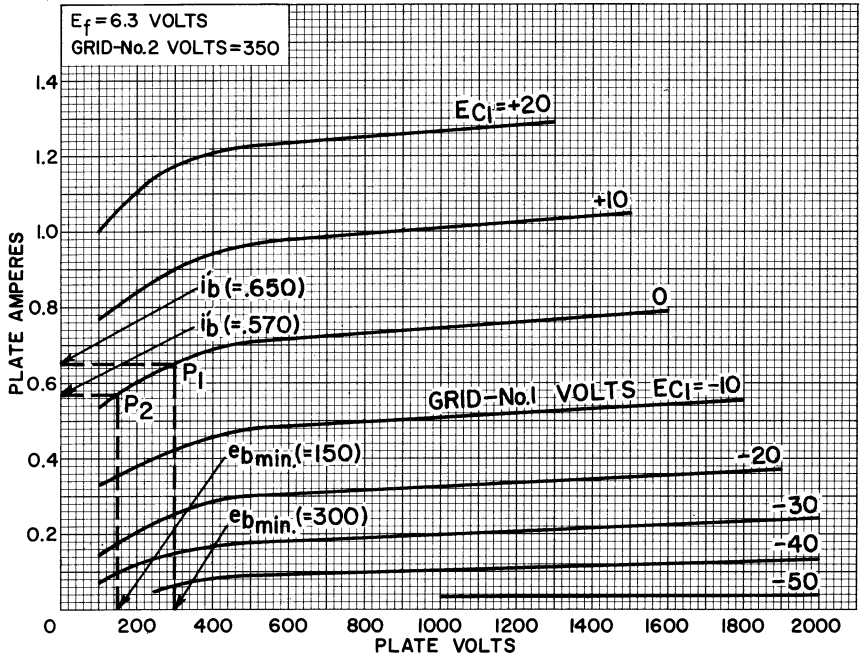
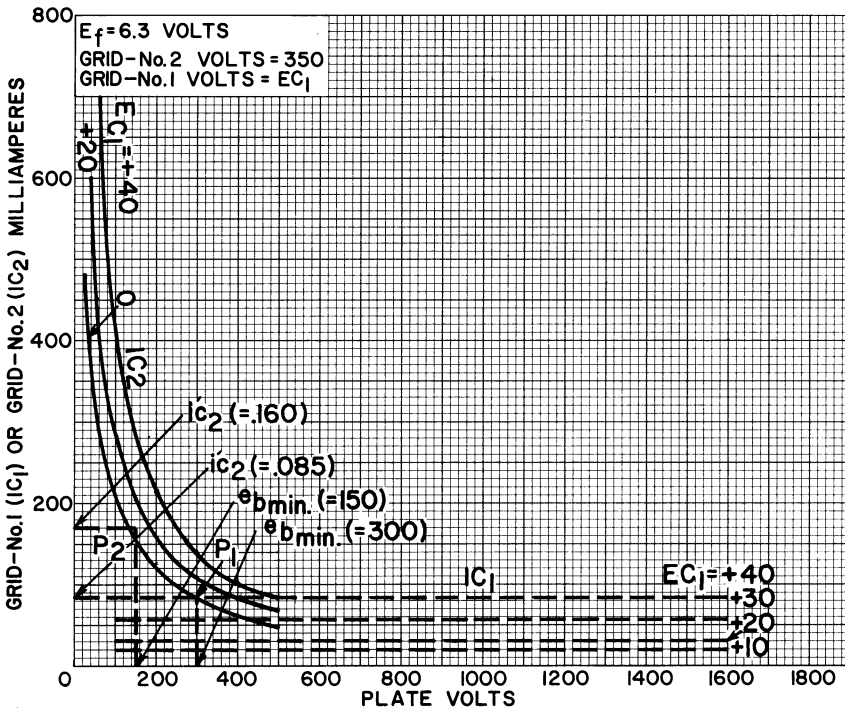

Figure 1: Typical plate characteristics of type 7094.
Figure 2: Typical characteristics for type 7094.
(1) The maximum plate voltage rating is 2000 volts.
(2) From the plate-characteristics curves shown in Figure 1 ($E_{c2} = 350$ volts), select a point PI on the knee of the curve for zero control-grid voltage. At this point, i'_b is 0.650 ampere and e_{bmin} is 300 volts. At the corresponding point on the grid-characteristics curves shown in Figure 2, i'_{c2} is equal to 0.085 ampere.
(4) $PD = (I_{bms}/4) (E_b + 3 e_{bmin}) = (0.217/4) [2000 + 3 (300)] = 157$ watts.
(5) $SI = E_{c2}i'_{c2}/4 = (350) (0.085)/4 = 7.4$ watts.